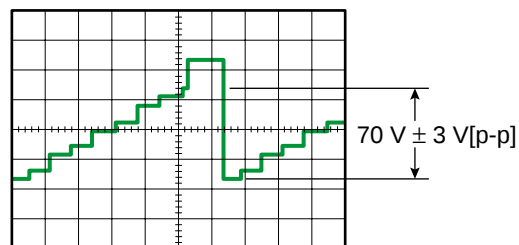

Fig. 4-2
- Adjust MAX CONTRAST by pressing the Increment Button (+) or the Decrement Button (-) so that the output of TP802 becomes $70\text{ V} \pm 3\text{ V[p-p]}$ as shown in Fig. 4-2.